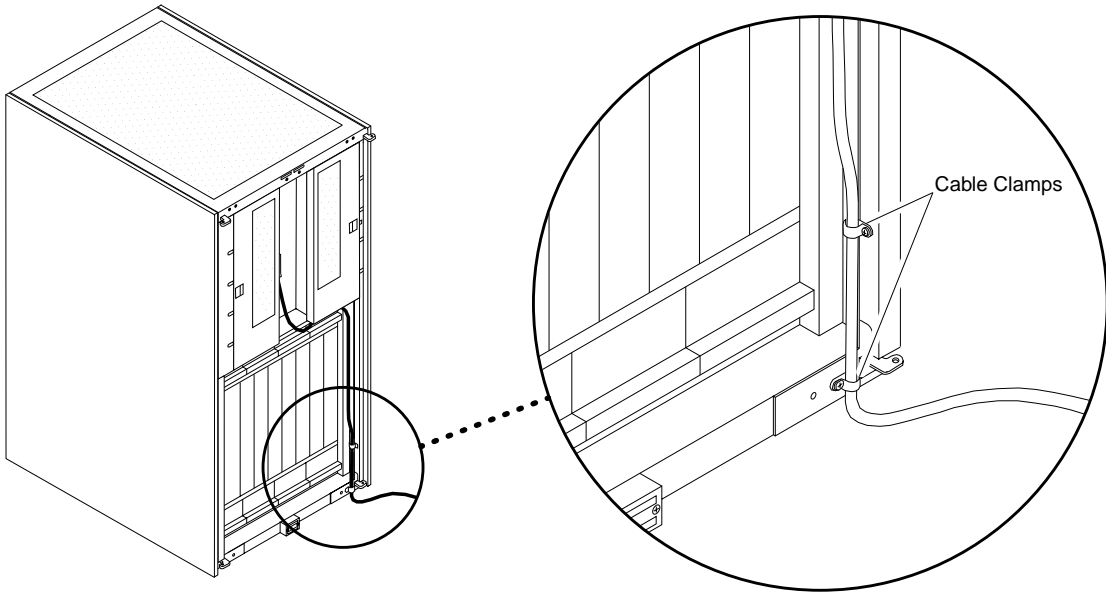

FIGURE 20 AC Sequencer Cable Location—Typical
- c. Fasten the cable at the bottom with a cable clamp using an available M4 tapped hole (FIGURE 20).**
- c. Fasten the cable at the bottom with a cable clamp using an available M4 tapped hole (FIGURE 20).